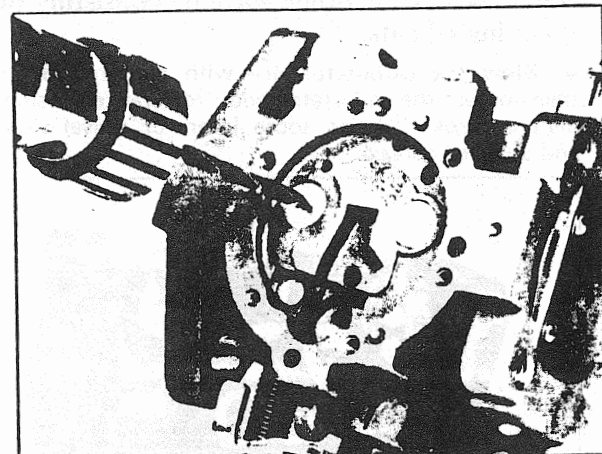

FIGURE 7
- With a 1/8" dia. drill, perforate the welch plug, allowing only the drill tip to break through the plug. If the drill travels too far into the cavity, the casting will be ruined (Fig. 7).